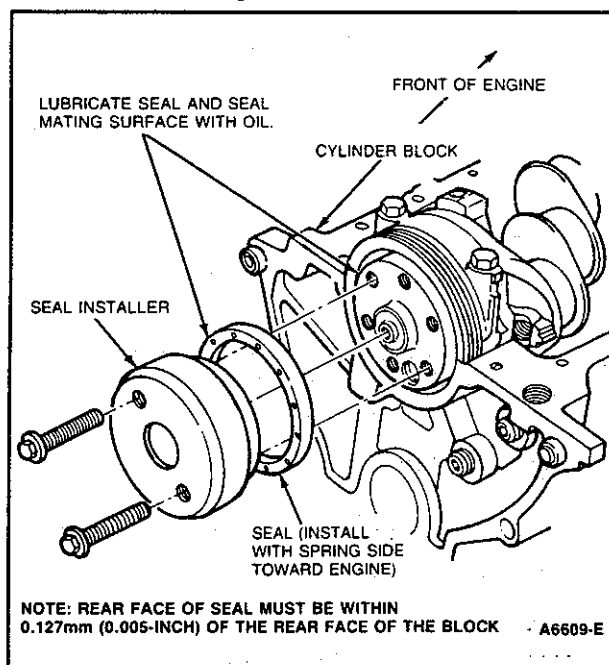

Figure 64 Oil Seal Installation, Rear — One Piece Seal — Typical
2. Position oil seal on Rear Oil Seal Installer or equivalent. Position tool and seal on the rear of the engine. Alternate bolt tightening to properly seat the seal. (Two bolts are supplied with Rear Oil Seal Installer or equivalent. Engine flywheel bolts may also be used.) (Figure 64)